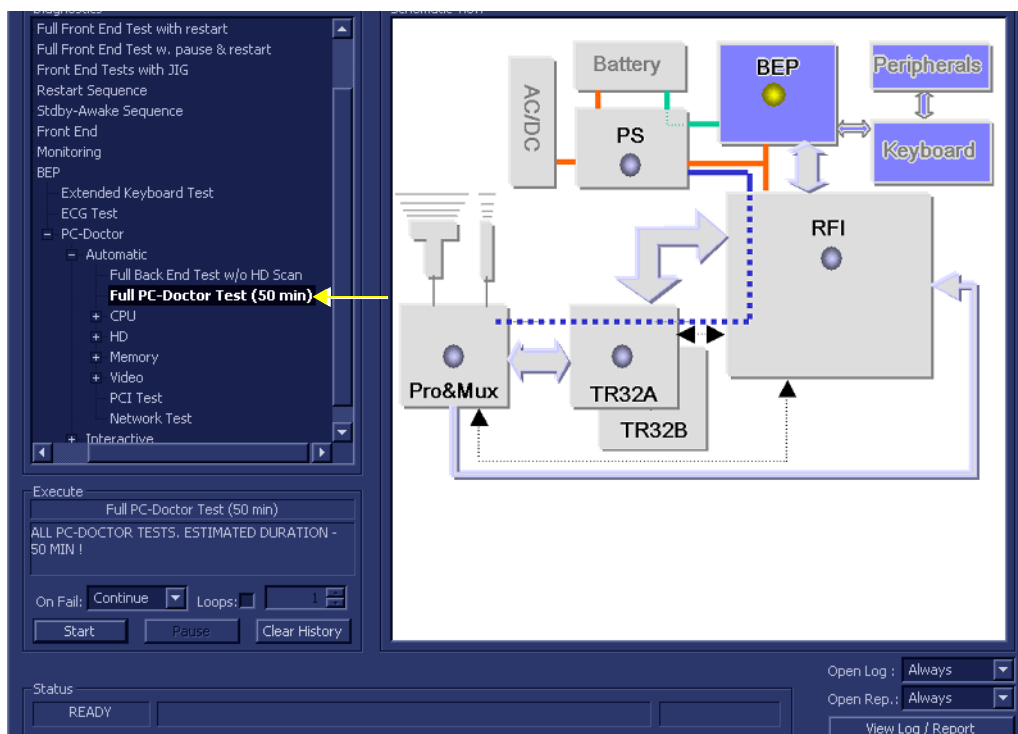

Figure 7-82 Full PC Doctor Test
- 1.) In the *Diagnostic Test* window, trackball to **Full PC Doctor Test** in the list of *PC Doctor* tests available for selection from the Diagnostic Test Tree (see Figure 7-82 below) and press **Set**. The Test name is displayed under *Execute*; the relevant system components to be tested are highlighted light blue in the Schematic View (BEP, Peripherals, Keyboard), as shown below: